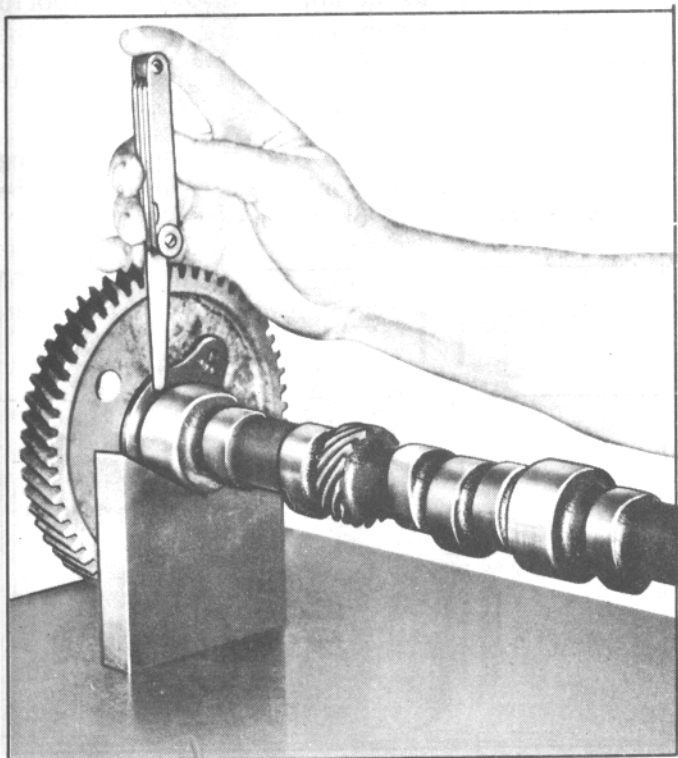

Fig. 67. Measuring Camshaft End Play
3. Place gear spacer ring and thrust plate over end of shaft, and install woodruff key in shaft keyway. Install camshaft gear and press it onto the shaft until it bottoms against the gear spacer ring. The end clearance of the thrust plate should be .001 to .005 (Fig. 67).